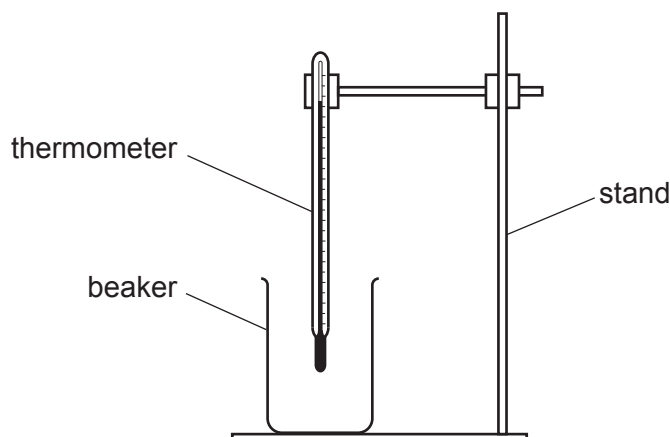

Fig. 3.1
- 1 The beaker and the thermometer must be supplied to candidates as shown in Fig. 3.1. If the beaker does not have graduations, an indelible mark must be drawn at the 50 cm^3 level and labelled ' 50 cm^3 '.
Restore the apparatus to the set-up shown in Fig. 3.1.